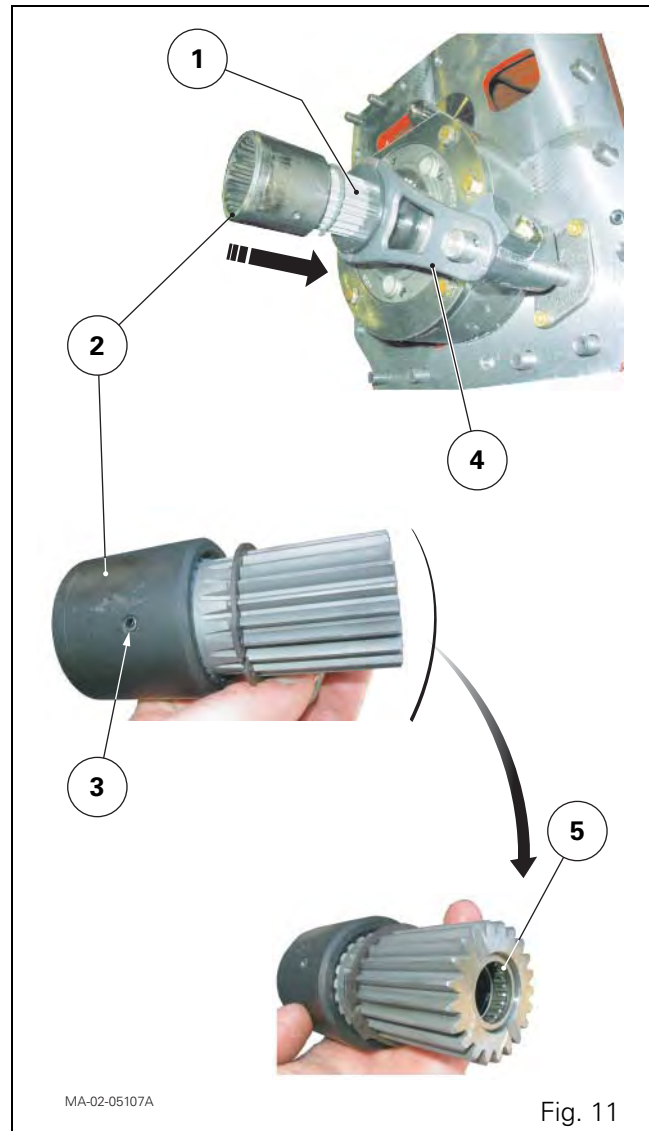

Fig. 11
- **Gearbox with super creeper unit (Fig. 11)**